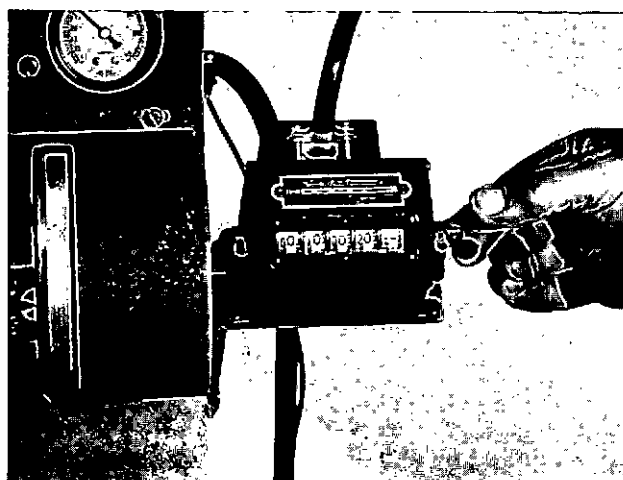

Fig. 4-53, (F60139). Clear the stroke counter
17. Clear the counter by rotating with the thumb screw for one complete revolution. All white counter wheels must show zero, Fig. 4-53.